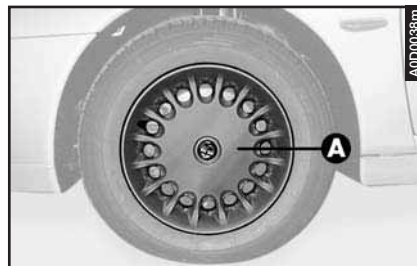

fig. 4
– Remove the wheel cap (**A-fig. 4**) (only for versions with steel rims) levering on the edge with the flat-tipped screwdriver provided in the tool bag.
– Remove the wheel cap (**A-fig. 4**) (if present) levering on the edge with the flat-tipped screwdriver provided in the tool bag.